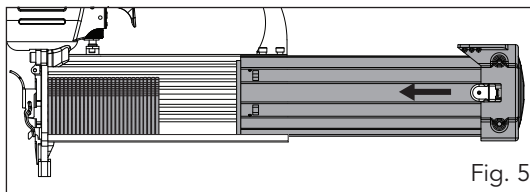

Fig. 5
3. Place the strip of fasteners into the magazine (7), be sure the fasteners are pointed downwards and sit in the bottom of the magazine (7). Now push the magazine cover (6) forward and allow it to push the fasteners up to the driving mechanism (fig. 5). Push the magazine cover (6) forward until it is locked. The tool is ready for use.